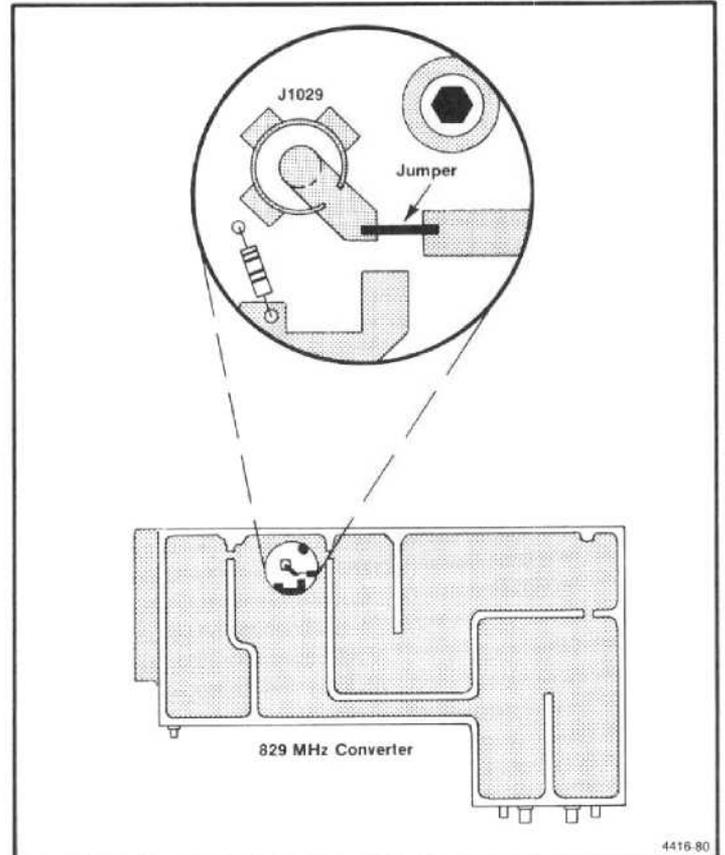

Figure 6-14. Location of test jack and jumper on the 829 MHz amplifier board.
b. Unsolder and reconnect the jumper, on the 829 MHz Amplifier board, to the test Peltola jack J1029 (see Figure 6-14).